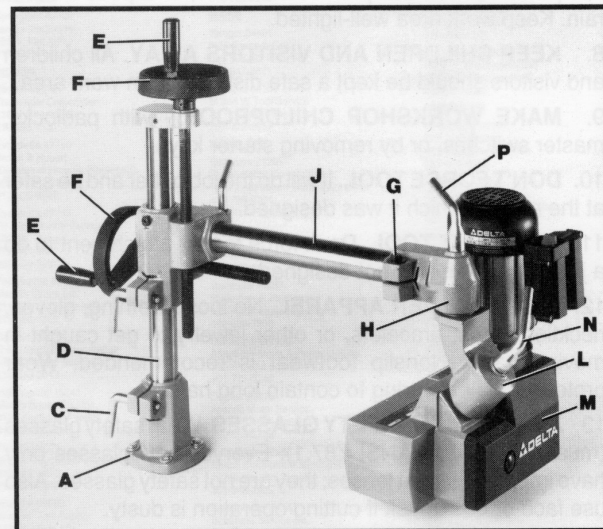

Fig. 3
1. Loosen locking lever (C) Fig. 3, and insert vertical arm (D) of support assembly into mounting bracket (A).
2. Tighten locking lever (C) Fig. 3, to hold feeder assembly in position on the table.
3. Insert two 3-1/2 inch-long screws supplied, through two handles (E) Fig. 3, and thread jam nuts onto ends of screws.
4. Position two handles (E) Fig. 3, over the threaded holes in two handwheels (F) and thread handles into handwheels.
5. Loosen screw (G) Fig. 3, and position end bracket (H) over end of horizontal support arm (J); tighten screw (G).
6. Assemble angle bracket (L) Fig. 3, onto feeder (M) and tighten locking lever (N).
7. Assemble feeder (M) Fig. 3, with angle bracket (L) onto end bracket (H). Tighten locking lever (P). **NOTE:** Adjustments to feeder mounting positions can be made later.